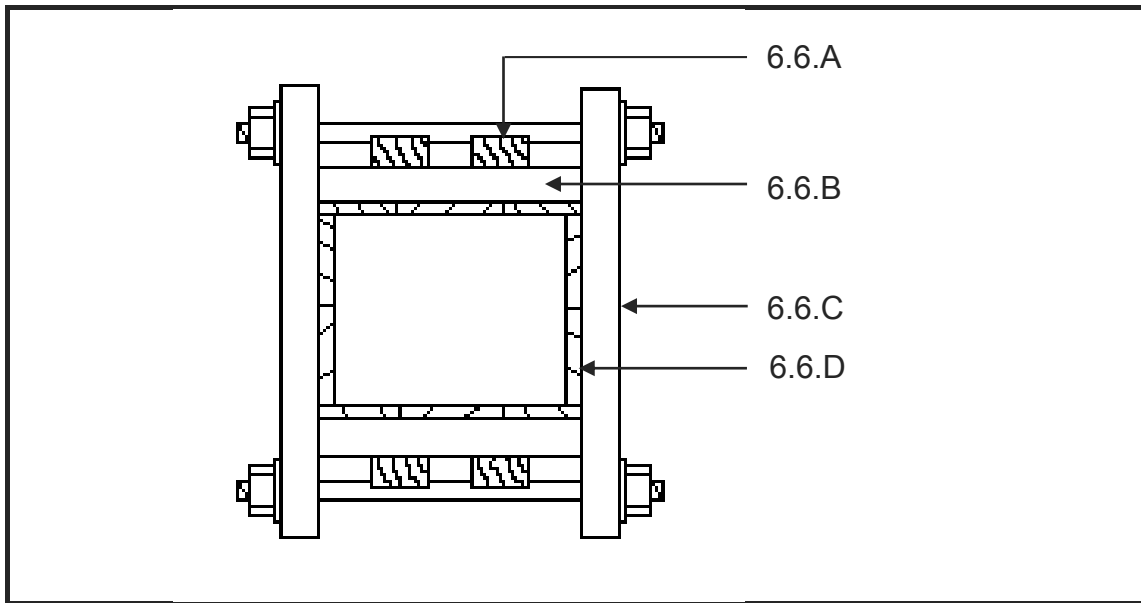

FIGURE 6.6
6.6 Answer the following questions with regard to the formwork in FIGURE 6.6.